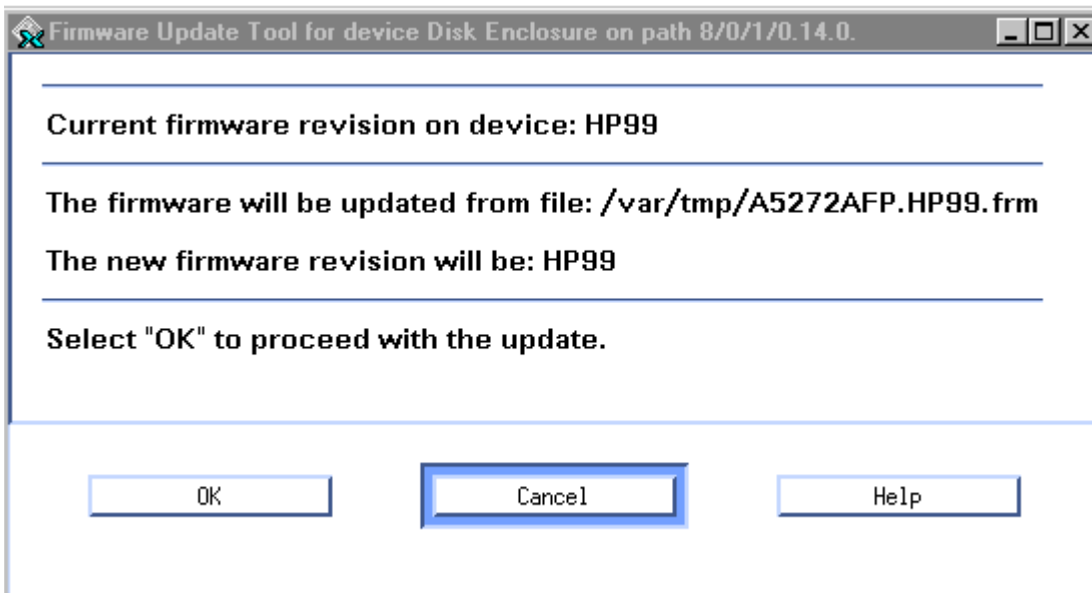

Figure 70 Firmware Download Confirmation Window
8. Select **Start Update...** from the Update menu. STM prompts you to confirm or cancel the firmware update (see Figure 70).